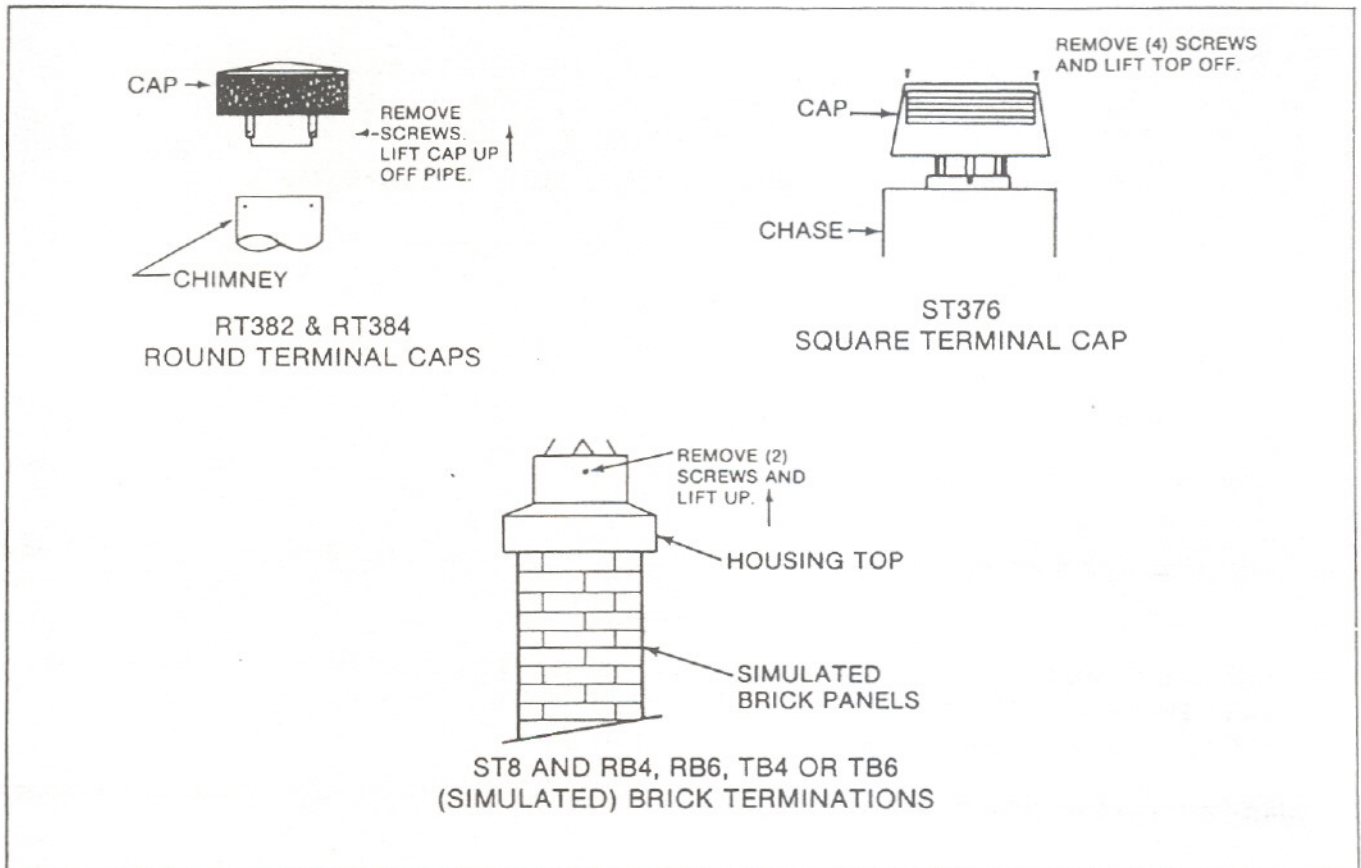

Figure 20
3. Remove the Terminal Cap or Housing Top. See Figure 20.